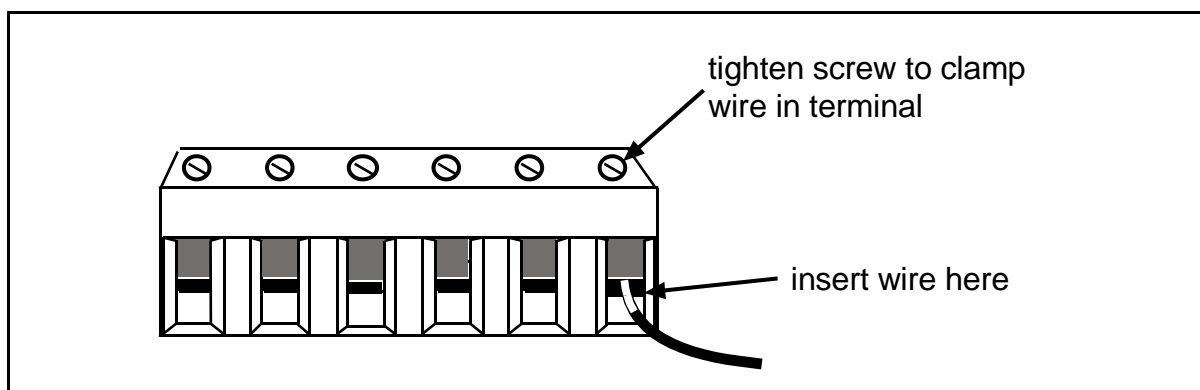

Figure 2-2. Attaching Wires to a Phoenix Connector (6-Pin Connector Shown)
8. Connect two wires with shield from TB102 at the SmartPAC processor board or TB103 at the SmartPAC 2 board to your terminal block, as shown in Figure 1. To connect a wire, loosen the screw in your Phoenix plug, insert the bare part of the wire 90% of the way into the open slot, and retighten the screw, holding the wire firmly in place (see Figure 2-2).
To connect a wire (see Figure 2-2, page 11), loosen the screw on the plug, insert the bare part of the wire 90% of the way into the open slot, then retighten the screw, holding the wire firmly in place.